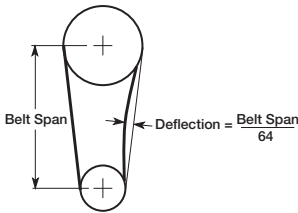

Figure 5 — Belt Tension
2. Belts too tight/loose	2. Refer to Figure 5, adjust tension